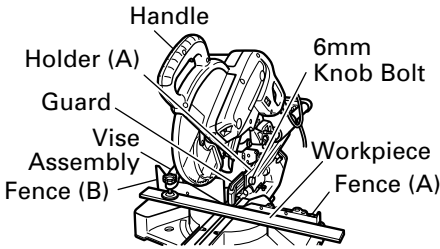

Fig. 8
Holder (A) has a guard (see Fig. 8) into which a groove must be cut.